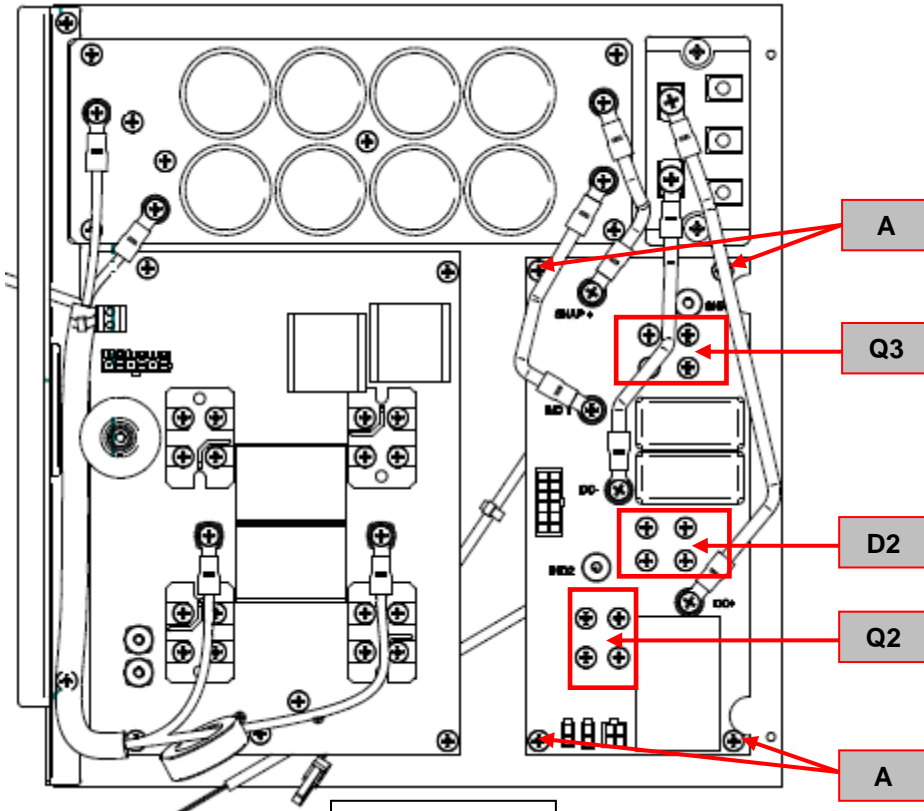

Figure 26
- Using the Phillips screwdriver remove the four screws from the module **D2**. Carefully remove the silicon sealant to access the screws if present. See **Figure 26**
- Using the Phillips screwdriver remove the four screws from the module **Q3**. Carefully remove the silicon sealant to access the screws if present. See **Figure 26**
- Using the Phillips screwdriver remove the four screws from the module **Q2**. Carefully remove the silicon sealant to access the screws if present. See **Figure 26**
- Locate the 4 corner screws (**A**) and using the phillips screwdriver remove them. See **Figure 26**
- Note the position and type of the module **Q3**, **Q2** and **D2**. See **Figure 26**